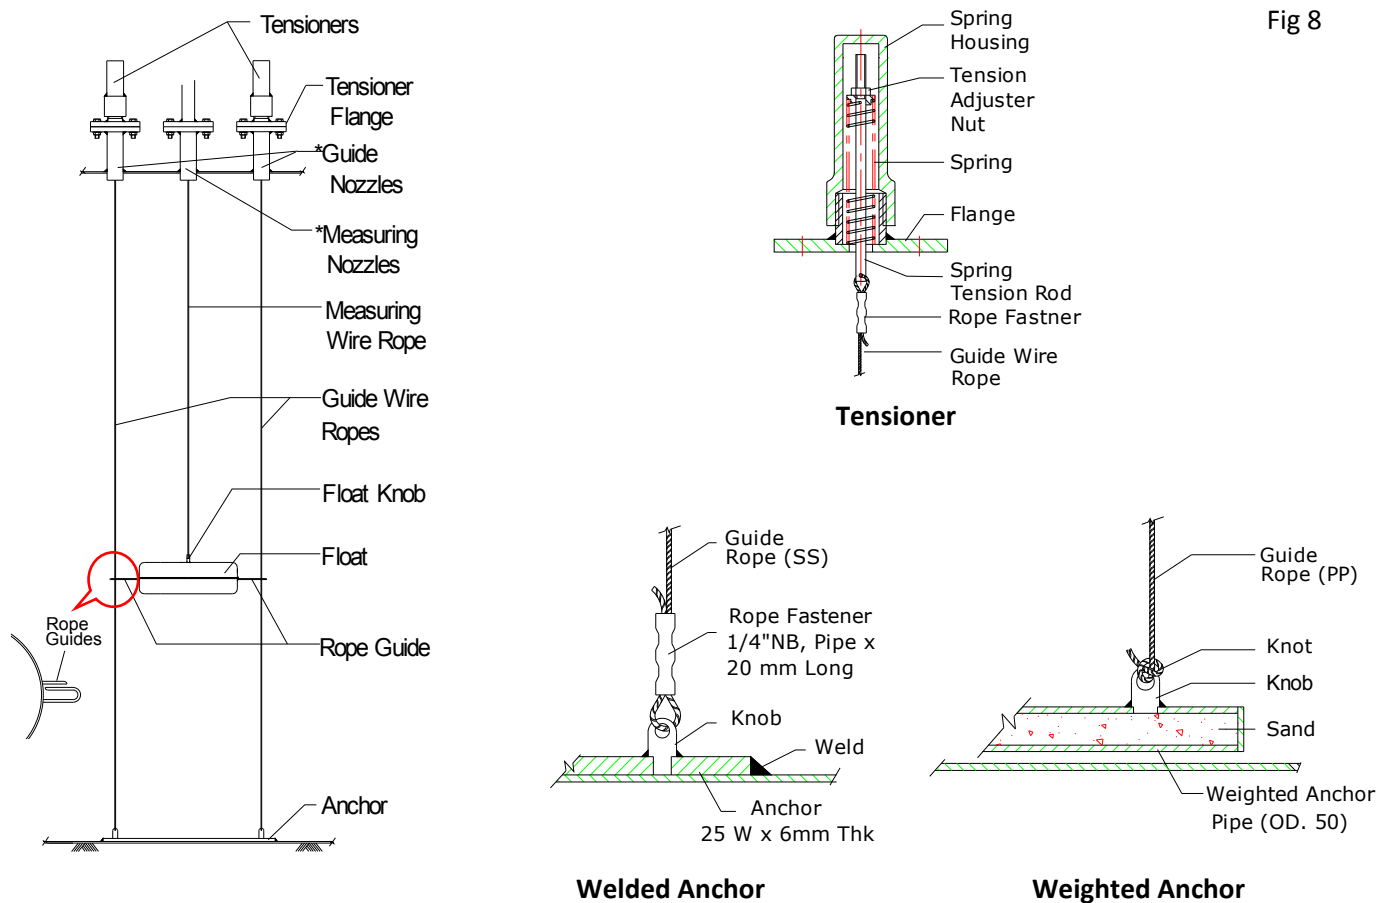

Fig 8
- Switch operation –Micro switches are set for high and low level of measuring range. Open terminal enclosure and connect continuity tester between P & NO terminals. Slowly pull out the wire rope and observe the continuity (change over) between P & NO at required level set point. (Refer fig 8 for details)
Guide Ropes Fitting (fig 8)